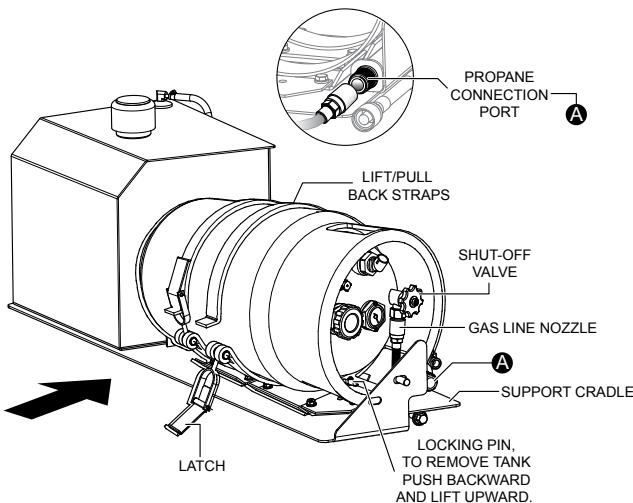

Figure 16. Propane Tank Removal
- CLOSE** the shutoff valve on the propane tank (Figure 16).